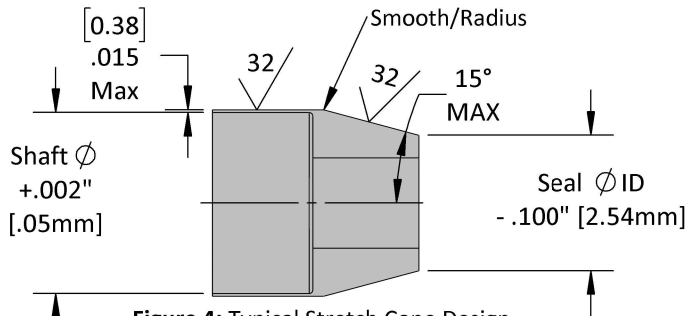
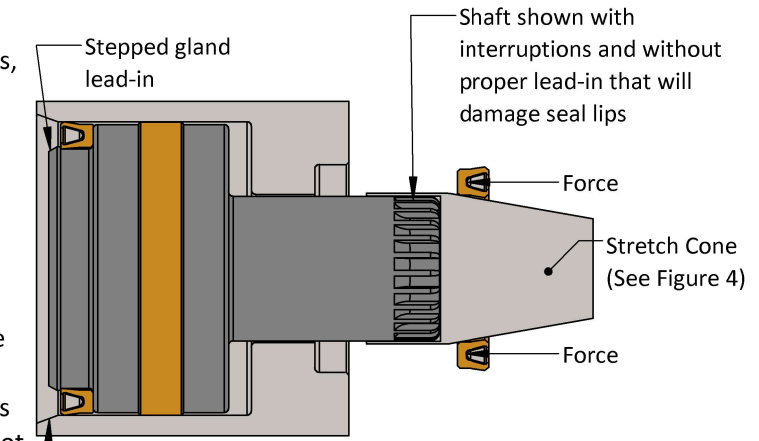
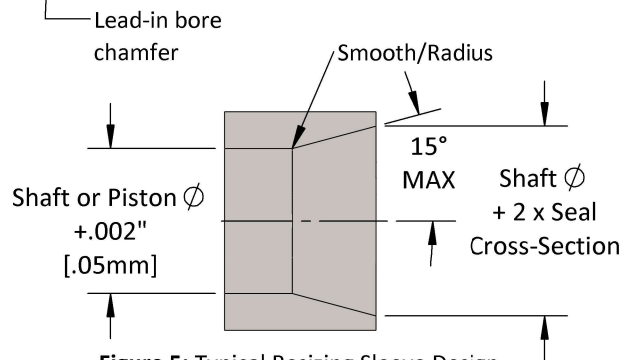

Figure 4: Typical Stretch Cone Design
Figure 3: Hardware and Seal Installation Schematic
Figure 5: Typical Resizing Sleeve Design
5. If lead-in's are not present on a shaft or piston, stretch cones should be used (see Figure 3 & 4). Likewise, if lead-in's are not present in a bore or housing, tapered resizing sleeves should be used (see Figure 5).
1. If possible, avoid contacting the seal lips and apply force to the metal spring, energizer, or base of u-cup pocket, as shown in Figure 3, to install the seal into the gland. Otherwise, turn the seal around and apply force on the backside of the seal.
2. Piston and Shaft designs with open glands - Refer to Figure 3. Place a stretch cone onto the shaft or piston. Place the seal onto the stretch cone. Quickly apply uniform force to slide seal into the shaft or piston gland.
- a. **Pusher Tool Method:** Common installation method for $\leq 4"$ diameter piston seals. While using a pusher tool (Figure 13), stretch cone (Figure 4), and resizing sleeve (Figure 5), force the PTFE seal into the gland (see Figures 14-19 for a step by step process installing a 2pc Piston seal consisting of an o-ring and PTFE seal). Consult TLon for pricing.